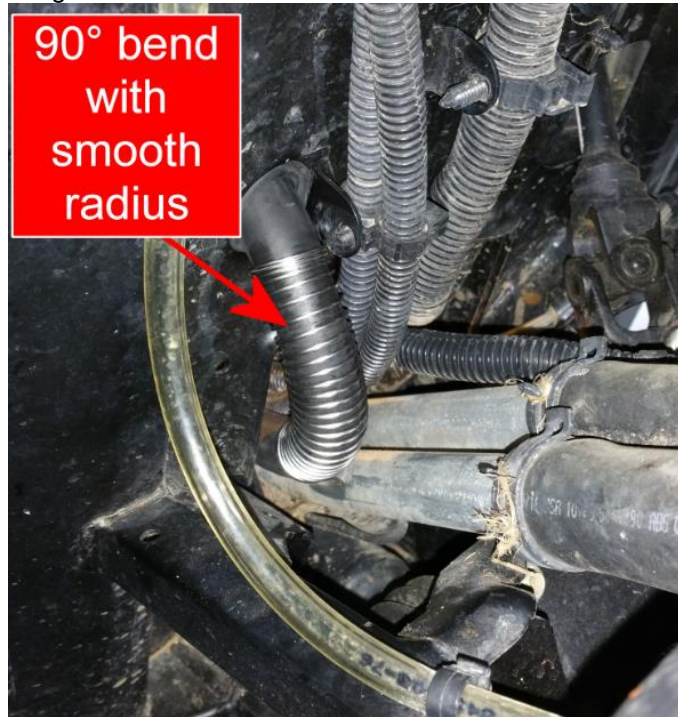

Figure 9
35. Bend the center tunnel Unicoil at a 90 degree angle keeping it as smooth of a radius as possible. This will reduce the chance of kinking the 5/8" Radiator Hose and help to maintain a smooth transition from the firewall to the center tunnel. See Figure 9.